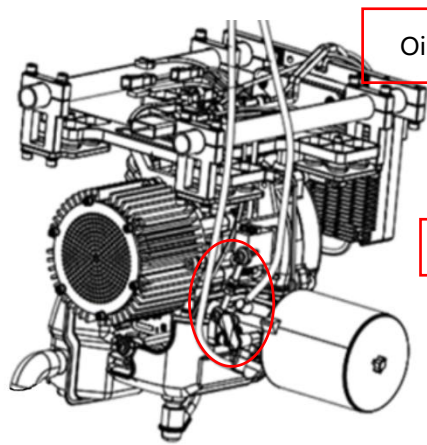
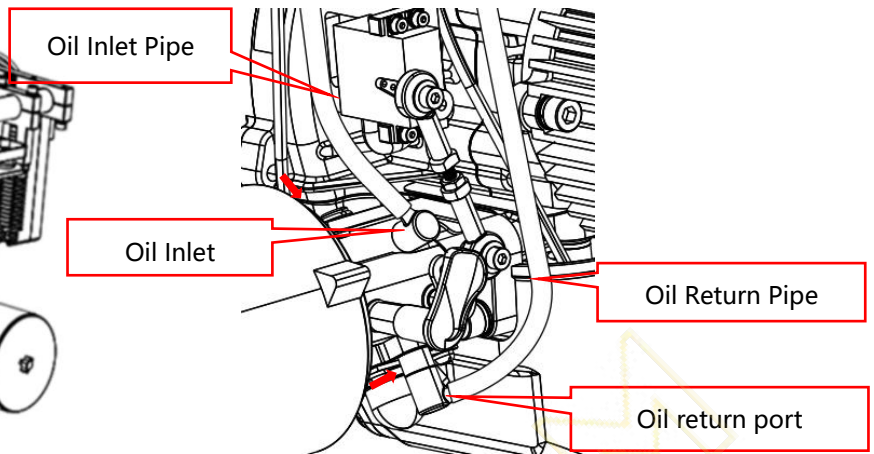

Fig 6
Fig 7
5.3.2 The oil circuit connection mode is shown in Figure 6 and Figure 7 below: